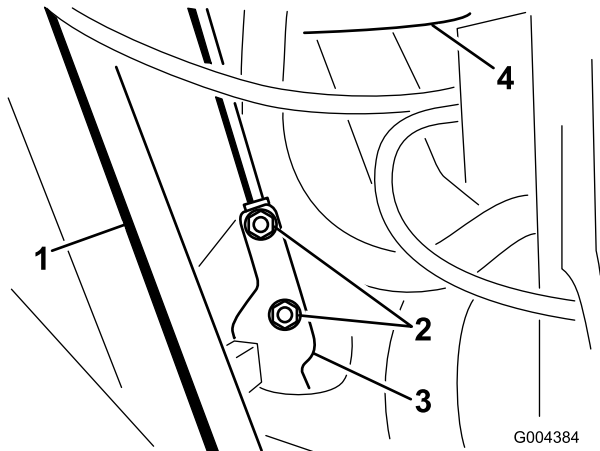

Figure 6
4. **Carefully** lift the tank up and out to provide access to the bolt and nut connection of the stop engagement bracket and the upper and lower PTO levers (Figure 6).
5. Use a 1/2-inch socket and ratchet to remove and discard the 2 flange locknuts that secure the connection of the stop engagement bracket and the upper and lower PTO levers (Figure 6).